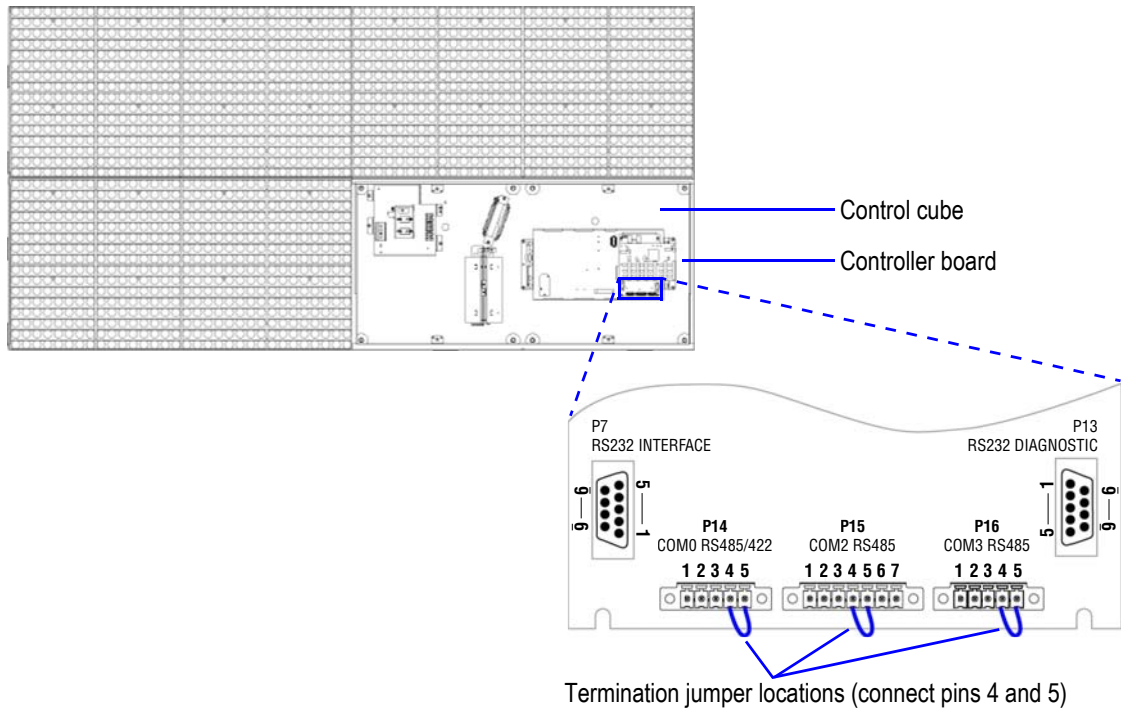
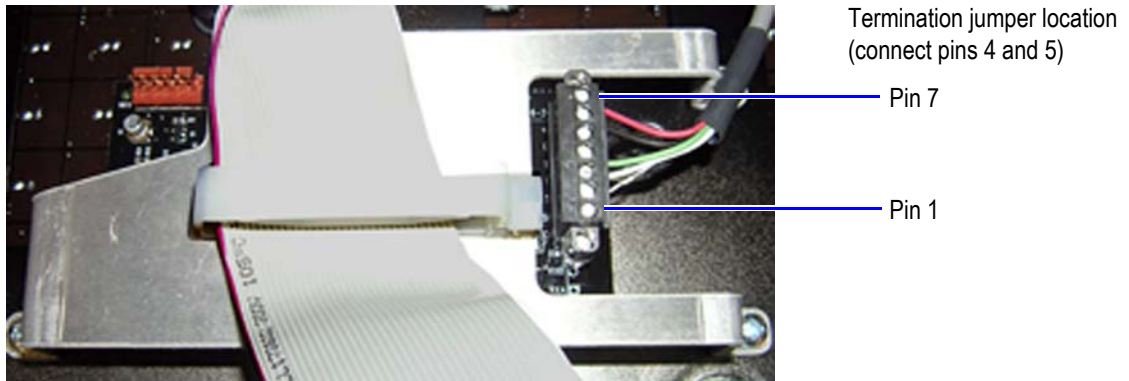

Figure 40: Termination jumper locations on controller board
Figure 41: Light sensor jumper locations
4. Remove the wire jumper from the appropriate connector. See Figure 40, "Termination jumper locations on controller board," and Figure 41, "Light sensor jumper locations," on page 46 for details.